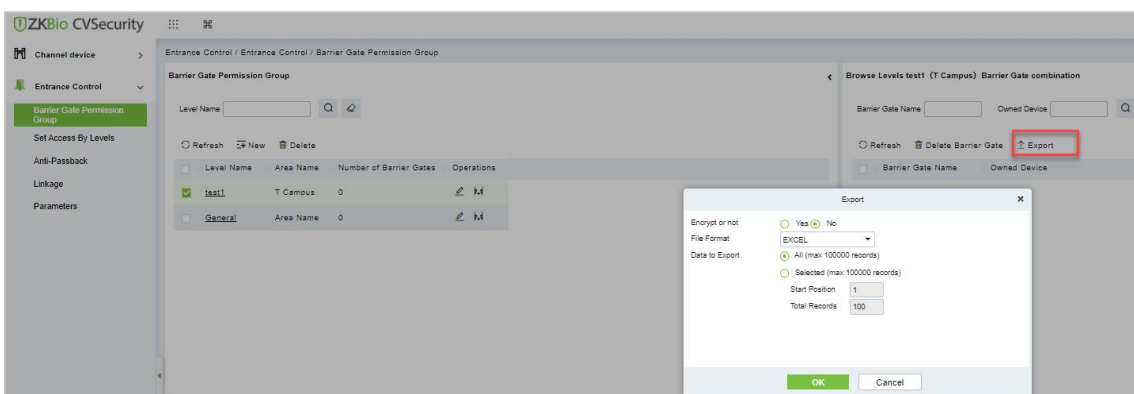

Figure 12-31 Export Interface
You can export barrier gate details into an Excel, PDF, or CSV file. See the following figure 12-31.
Step 2: Click **Add Person** icon  in the operation bar of the corresponding permission group to open the interface of adding person. Select the corresponding person as needed, as shown in Figure 12-31.